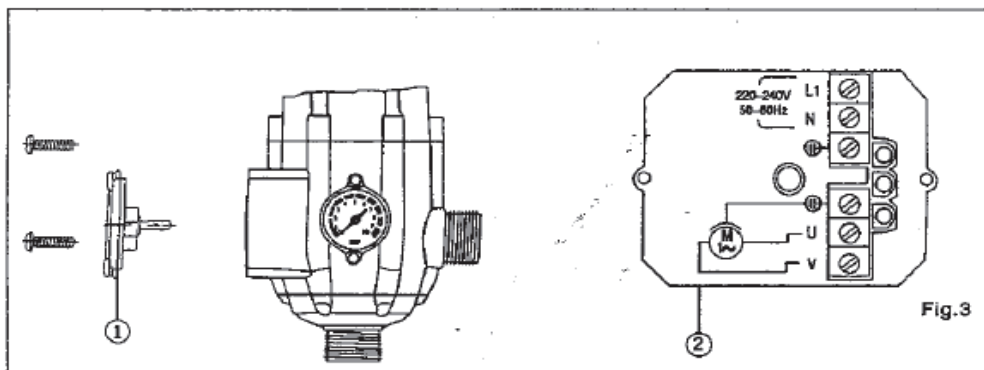

Fig.3
⚠ ELECTRIC CONNECTION (Fig.3)
- d). Incorrect electric connection on electronic board ②---check the connections according to Fig. 3.